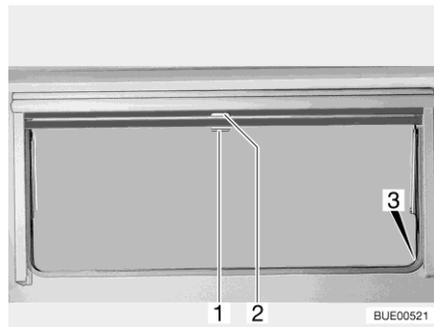

Fig. 105 Hinged window
- Pull blind at the handle (Fig. 105,2) downwards. If the blind is to be completely closed, it is suspended into the locking devices (Fig. 105,3) situated on both sides of the window frame.
- If the blind is completely closed: Press handle (Fig. 105,2) downwards and, at the same time, tilt it slightly inward. The blind can be taken out of the locking devices situated on both sides of the window frame.
- If the blind is in an intermediate position: Pull the handle (Fig. 105,2) slightly downwards until the locking device releases.
- Pull insect screen at the handle (Fig. 105,1) down and hang it into the locking devices (Fig. 105,3) situated on both sides of the window frame.
- Press handle (Fig. 105,1) downwards and, at the same time, tilt it slightly inward. The insect screen can be taken out of the locking devices situated on both sides of the window frame.